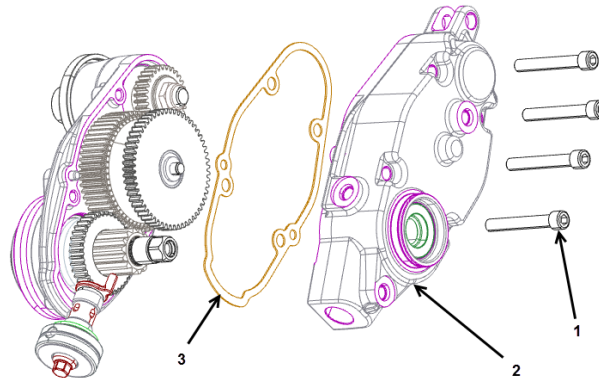

Figure 6
3. Remove the 4 socket-head screws and separate the gear box cover and housing. Remove and discard the cover gasket. (Figure 6)